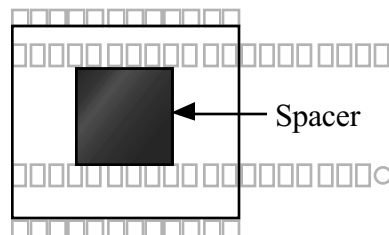

Figure 5-7
- ☐ Locate the black neoprene LCD spacer (MISC. bag), which is 1/2 x 1/2 square and 3/16" thick (12 x 12 x 5 mm). Remove the adhesive backing from one side and position the spacer as shown in Figure 5-7. It must be mounted flat against the PC board, centered between the two rows of pins on U1's socket.